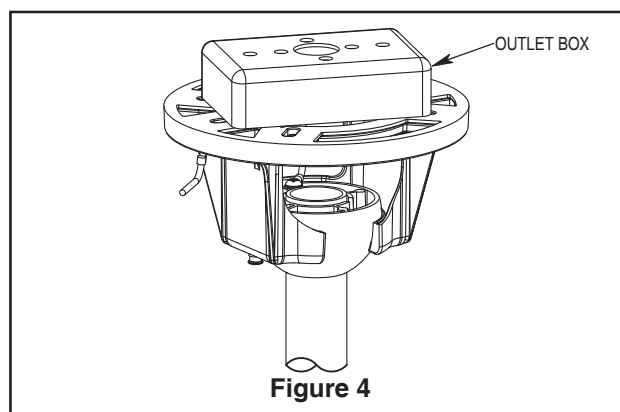

Figure 4
- ☐ 2. Carefully lift the fan and seat the downrod/hanger ball assembly on the hanger bracket that was just attached to the outlet box. Be sure the groove in the ball is lined up with tab on the hanger bracket (Figure 4).